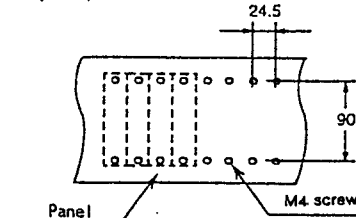
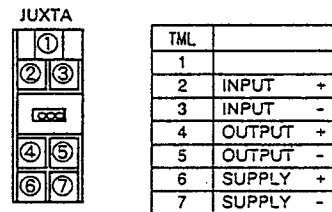

Fig.8 Terminal Arrangement
Fig.9 Wiring Diagram
- ① See Fig. 8 for terminal arrangement.
- ② Connect mV DC input signal cable from detector to transmitter terminals 2(+) and 3(-).
- ③ Connect transmitter output signal cable to its terminals 4(+) and 5(-).
- ④ Connect 24V DC power cable to transmitter terminals 6(+) and 7(-). (See Fig. 9)